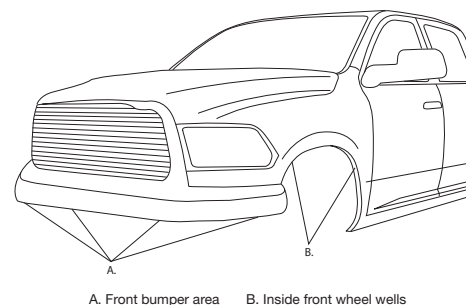

Fig. 17
7. Select a location for the Schrader valve (L), ensuring that the valve will be protected and accessible with an air hose (Fig. 17). Drill a 5/16" (8mm) hole, if necessary. Determine and cut adequate length of air line (D) to reach from the tee to the Schrader valve or from the air springs to the valve if using a dual-path installation. Raise the suspension or lower the body completely and remove the safety stands. Inflate the air springs to 5 PSI (.34BAR).